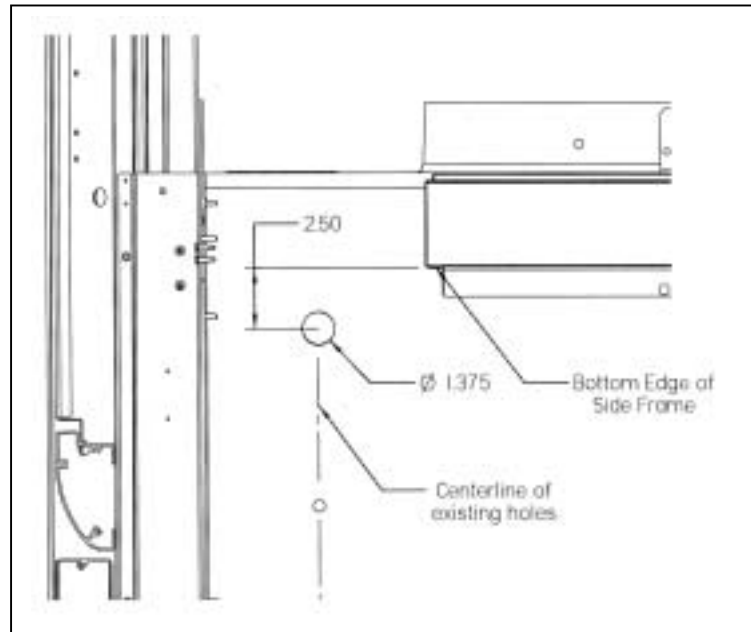

Figure 4
2. Drill a 1.375 diameter hole per Fig. 4.